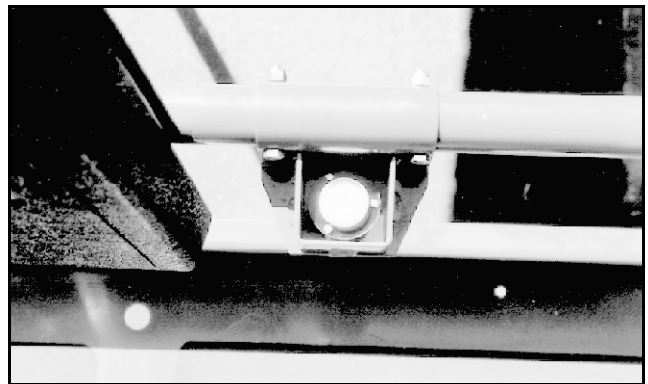

Figure 3: Platform Orbit Level
3. While observing the bubble level on the front guardrail, (Figure 3), extend the outrigger opposite the position of the bubble until the platform is level. For example: if the bubble is to the front and left in the orbit, extend the rear right outrigger. Continue to adjust until the bubble is centered in the small circle indicating that the platform is level.